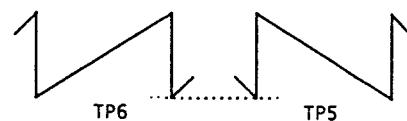

Fig. 4-26
- Adjust VR21 so that the lower level of sawtooth waveform at TP12 and TP13 becomes equal. (Fig. 4-26)